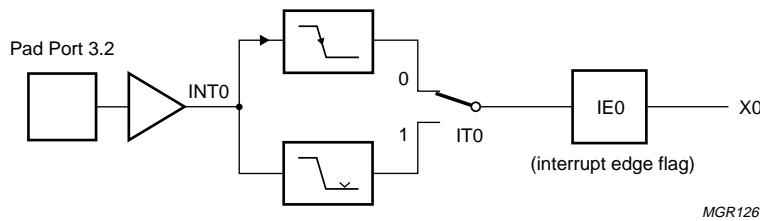

Fig.30 External interrupt Port 3.2 and Port 3.3 (INT0 and INT1).
**TCON.0 (IT0):** Interrupt 0 type control bit. Set/cleared by software to specify falling edge/low level triggered external interrupt (see Fig.30).
The wake-up interrupt (T2) is the level sensitive OR-function of WUP bit or CPL bit in the WUCON SFR. The wake-up interrupt is mapped to the T2 vector (see Fig.30). These flags are set by hardware and need to be cleared by software. For more information see Section 6.14.
Four Port 1 lines can be used as external interrupt inputs (see Fig.30). When enabled (IEN1 SFR), each of these lines may wake-up the device from power-down. Using the IX1 register, each of these port lines may be set active to either HIGH or LOW. IRQ1 is the interrupt request flag register. Each flag, if the interrupt is enabled, will send an interrupt request, but must be cleared by software, i.e. via the interrupt software. The Port 1 interrupt request flags can only be set if the corresponding interrupt enable bit is set.